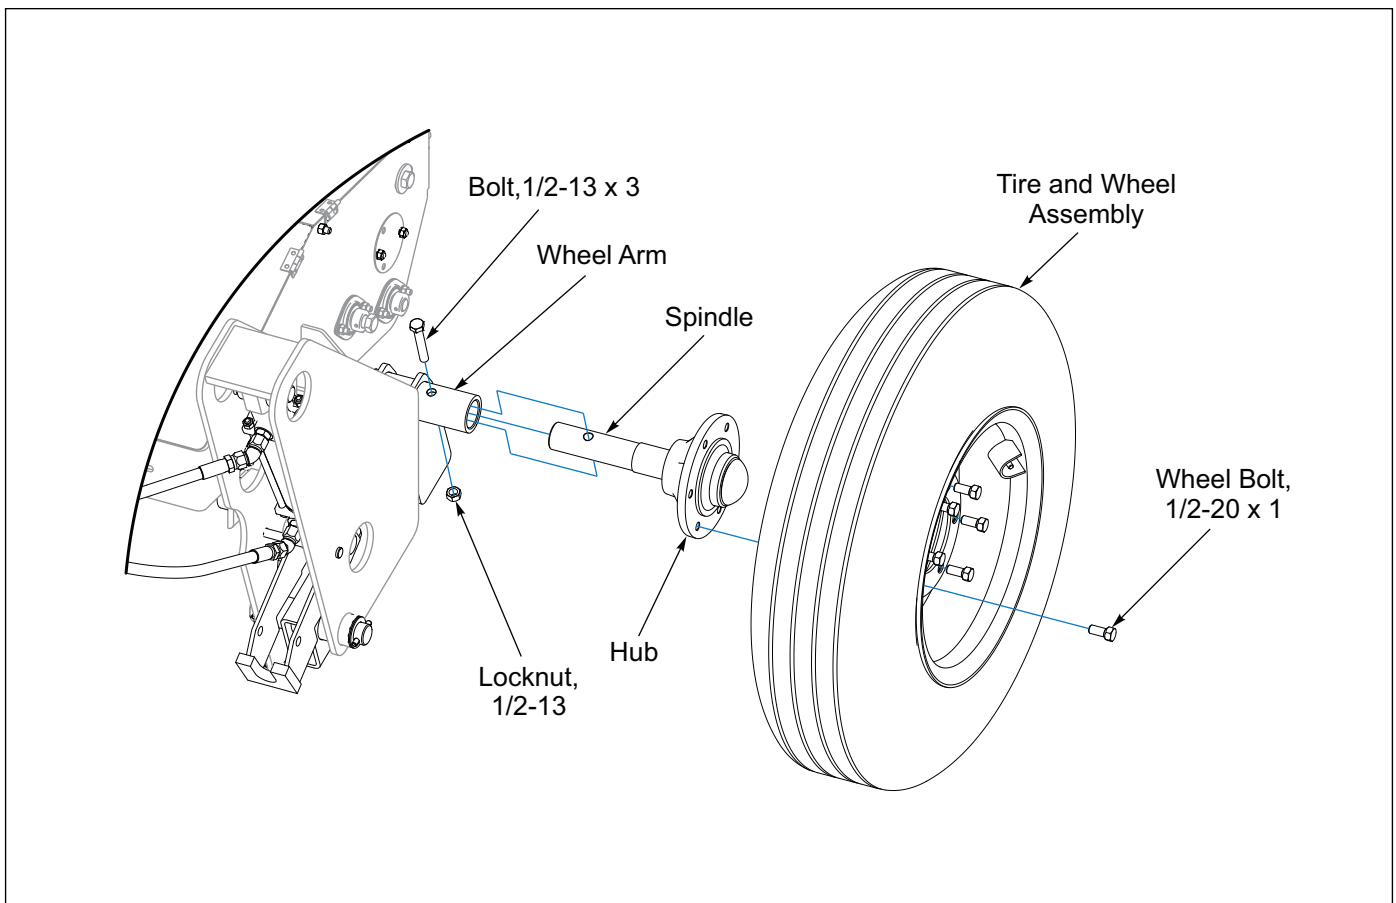

Figure 2-8: Hub and Spindle
6. Apply anti-seize to Spindles and insert a Hub and Spindle Assemblies into each Wheel Arm. Secure with 1/2-13 x 3 Bolts and Locknuts. **See Figure 2-8.**